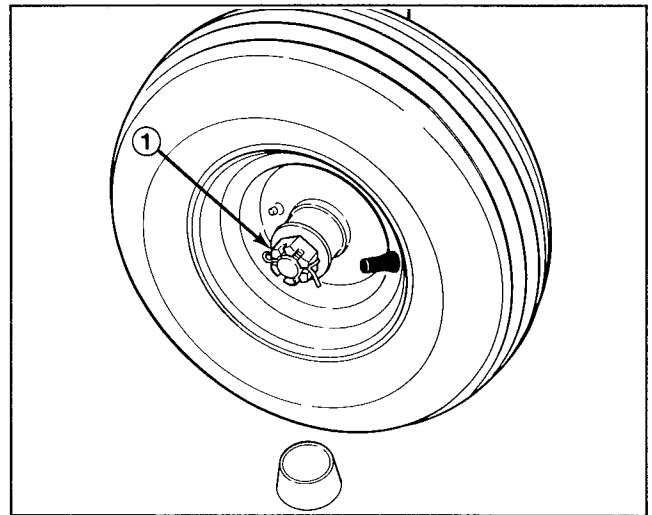

Figure 3
1. Slide (1) thrust washer and wheel onto one side of front axle. Position wheel so grease fitting and valve stem are outward.
2. Secure wheel to axle with (1) flatwasher, slotted hex nut and cotter pin. Install hub cap (Fig. 3).